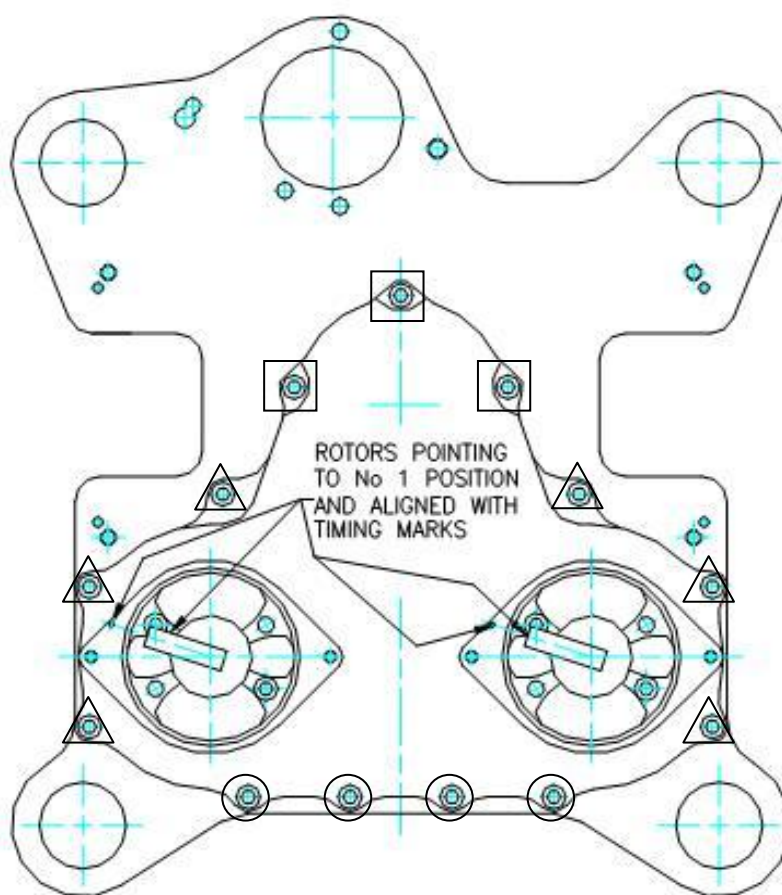

Figure 170 – Gearbox Installation
- Tighten the screws holding the gearbox to the engine. Note that different sized screws are used on the plate - Figure 170 refers.